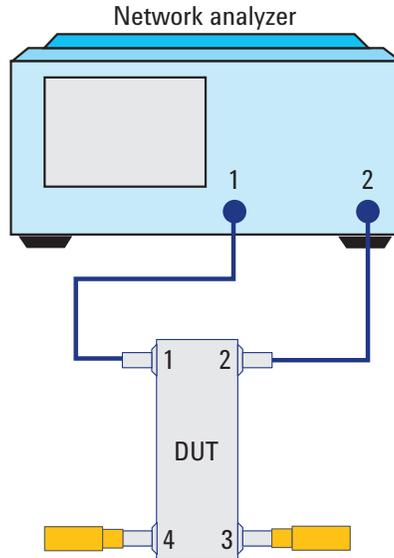

Figure 13. Equipment setup using network analyzer with coupler
2. Calibrate the network analyzer with full 2-port calibration with setup based on network analyzer model being used. The test setup is shown in Figure 13.
- Connect the device under test (DUT) to the network analyzer per Figure 13. The unused port to be terminated with a 50 Ω termination.